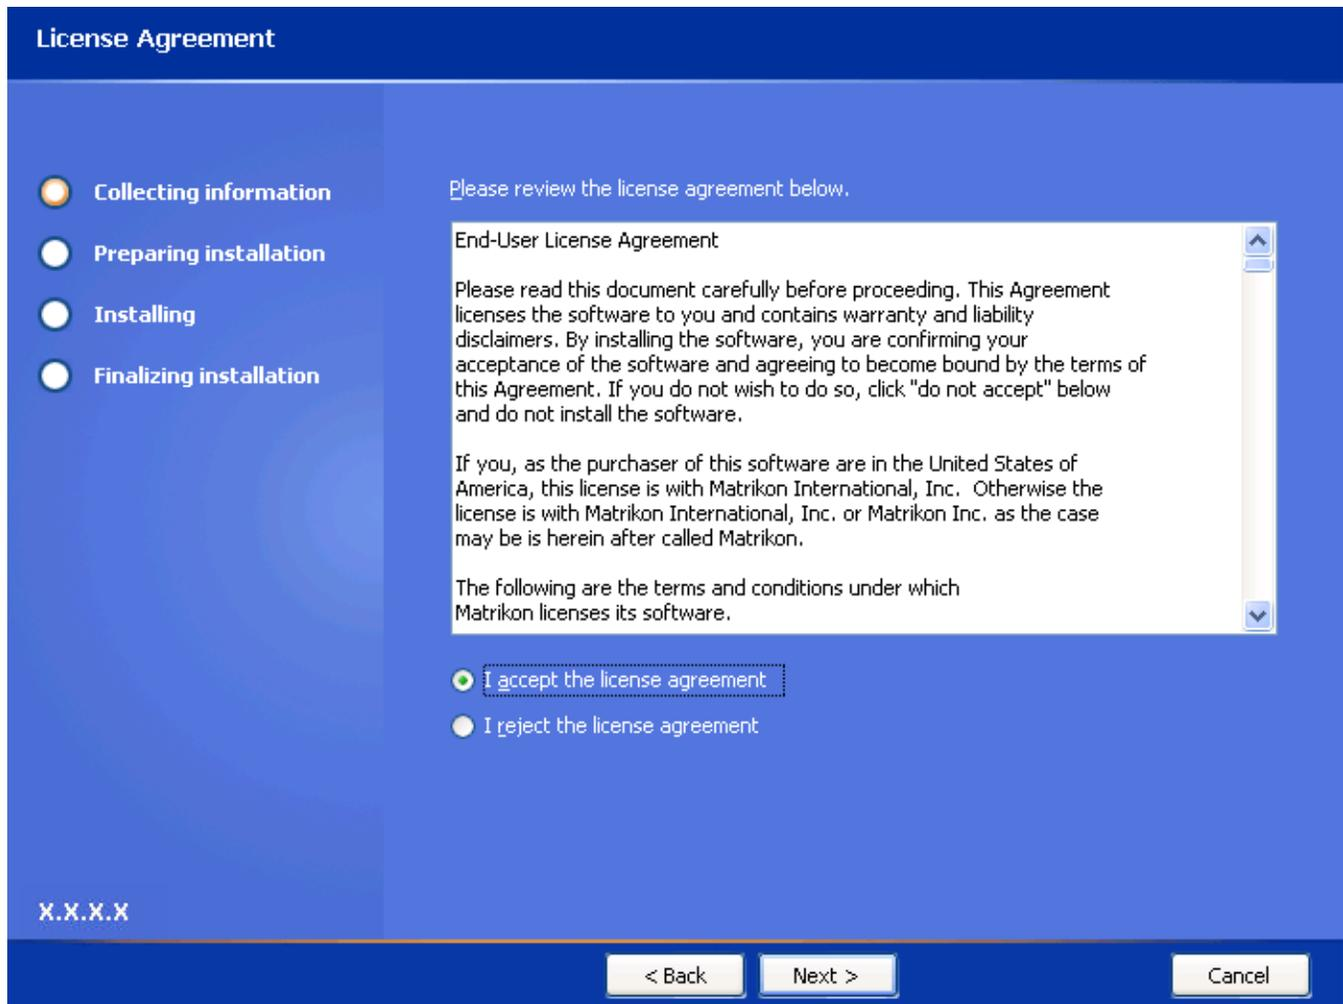

Figure 23 - License Agreement Screen
4. The **License Agreement** screen (Figure 23) appears.